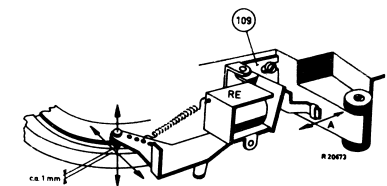

Fig 49
- In the rest position of the relay 103 the switch cam 106 should stand about 1 mm above the rim of the flywheel, see fig. 49. This can be adjusted by moving the fixing bracket 109 of the relay with respect to the chassis (see fig. 49).
- At the same time the switch cam 106 should stand above the lead-in groove of the flywheel. This can be adjusted by bending lip A of bracket 111 a little, see fig. 49.